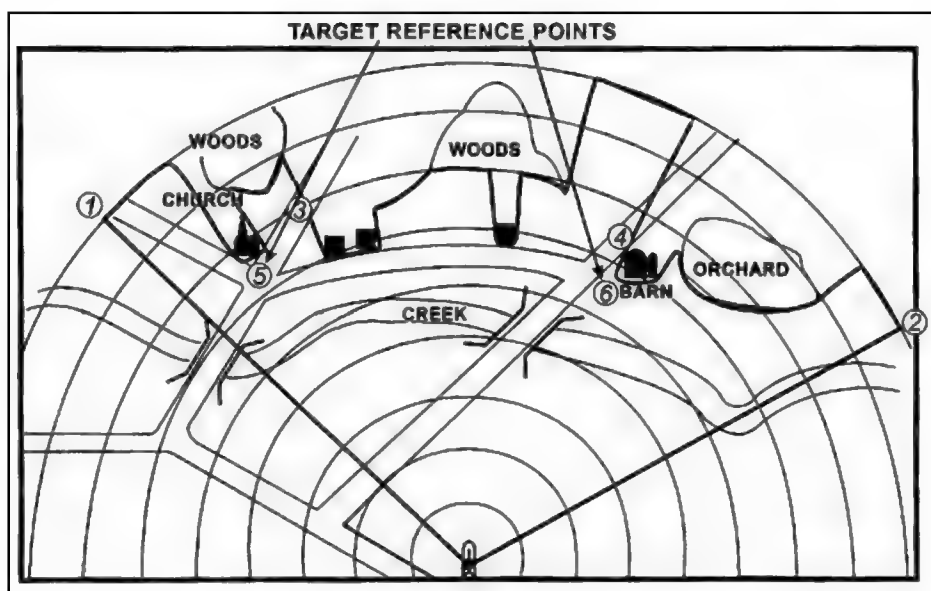

Figure B-8. Target reference points.
f. **Target Reference Points.** Prominent terrain features and or easily recognizable man-made objects (for example, road intersections, buildings, bridges, and so forth) are used as TRPs (Figure B-8). TRPs are used to locate targets and adjust direct or indirect fires. Normally, the sector has at least one TRP in a sector, but no more than three. Number each TRP and place a circle around each number starting with the next available number after AA numbers. In the Figure B-8 below, there are two AA and two TRPs, numbers 5 and 6 are assigned to the TRPs for this example. *Record the azimuth and distance to each TRP in the data section.*